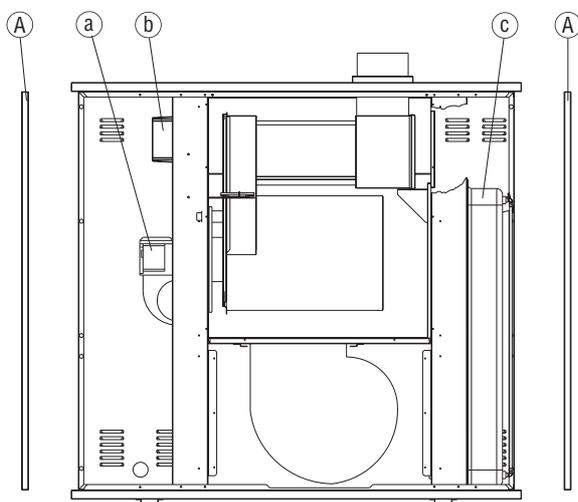

Fig.1
The space heater is equipped with two vain (Fig.1): a front one includes the control panel (a) and the burner (b), and a back one includes the tank (c) (only for oil version). Both compartments are accessible removing the panels (A) (practice a light traction on the panel).